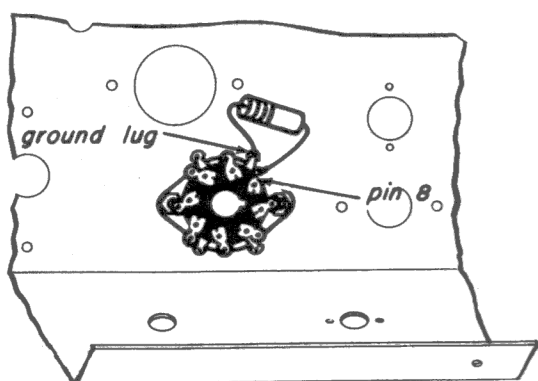

Fig. 17-8
Step 2. Solder the other end of the resistor temporarily to the ground lug of the tube socket, as shown in Fig. 17-8.